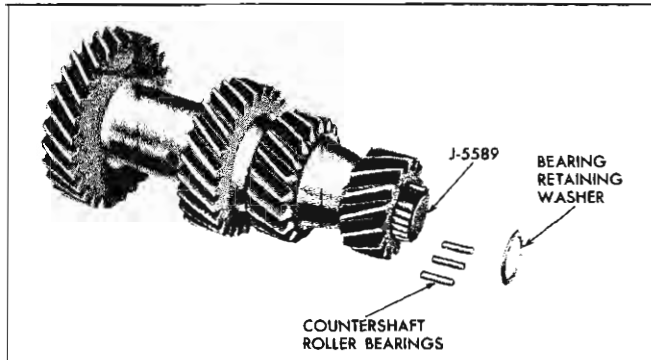

Fig. 7A-20 Installing Roller Bearings in Countergear
14. Install sleeve, hub, and synchronizing ring assembly on mainshaft, clutch sleeve shoulder to rear, and secure with clutch hub retaining snap ring (Fig. 7A-17).
2. At one end of countergear, install one row of 20 roller bearings, laying them around bearing loader J-5589 and seating them against bearing spacer (Fig. 7A-20).
8. Place smaller bronze thrust washer against rear of countergear, tangs facing gear and seated in grooves. Retain with grease (Fig. 7A-16).
1. Install oil retaining washer (Fig. 7A-14), on main drive gear, depressed side up.